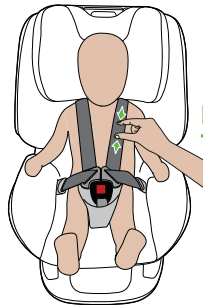

Figure 25
Step 3. Pinch the straps near the top of the shoulder to check for correct fitment. This is achieved when you are unable to pinch the harness (Figure 25). If you can pinch the harness, tighten more.